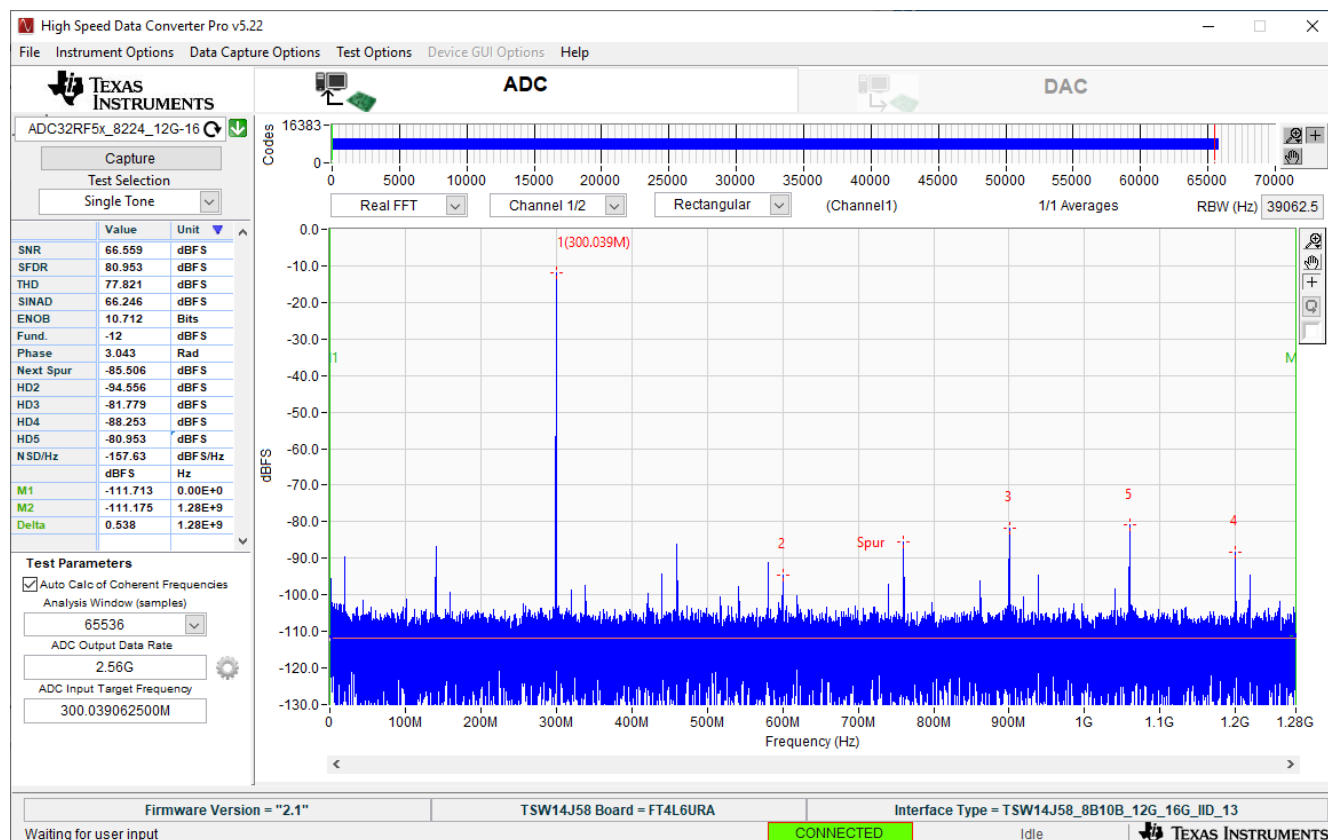

Figure 3-5. 300.039MHz, Bypass Mode, 2x Averaging, Dither Off
5. In HSDC Pro, press the *Capture* button. A screen appears, similar to Figure 3-5.